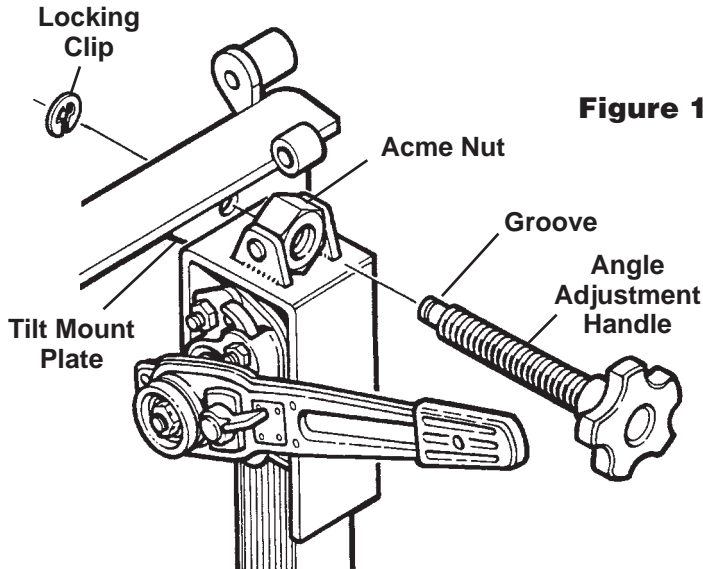

Figure 1
1. Thread the angle adjustment handle through the acme nut as shown in Figure 1. Insert the shaft end of the angle adjustment handle through the tilt mount plate.